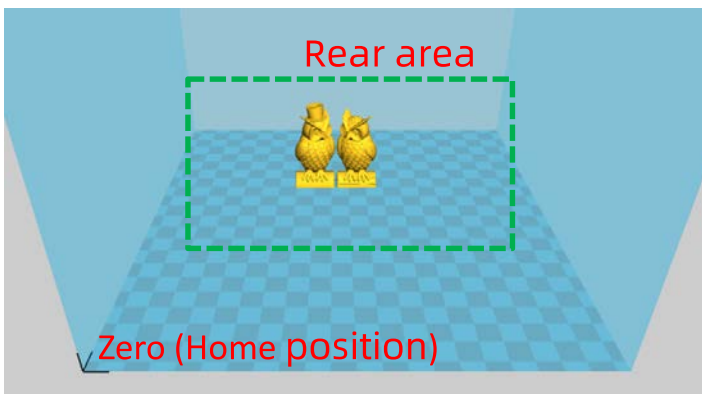
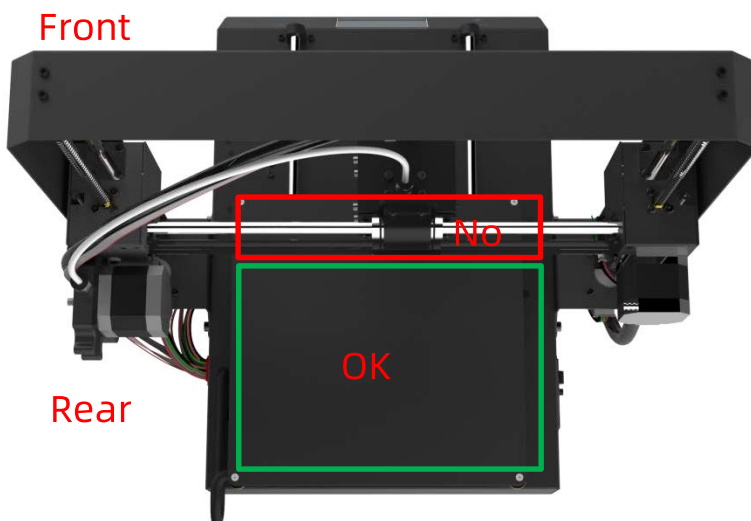

Figure 34
Figure 35
1. As shown in Fig.34, Fig.35, in slicing software (i.e. Cura), it is required to place the model at the rear of the platform. Because during "RESUME", machine will home first and could touch/interfere with the unfinished object if the model was placed in the front area.